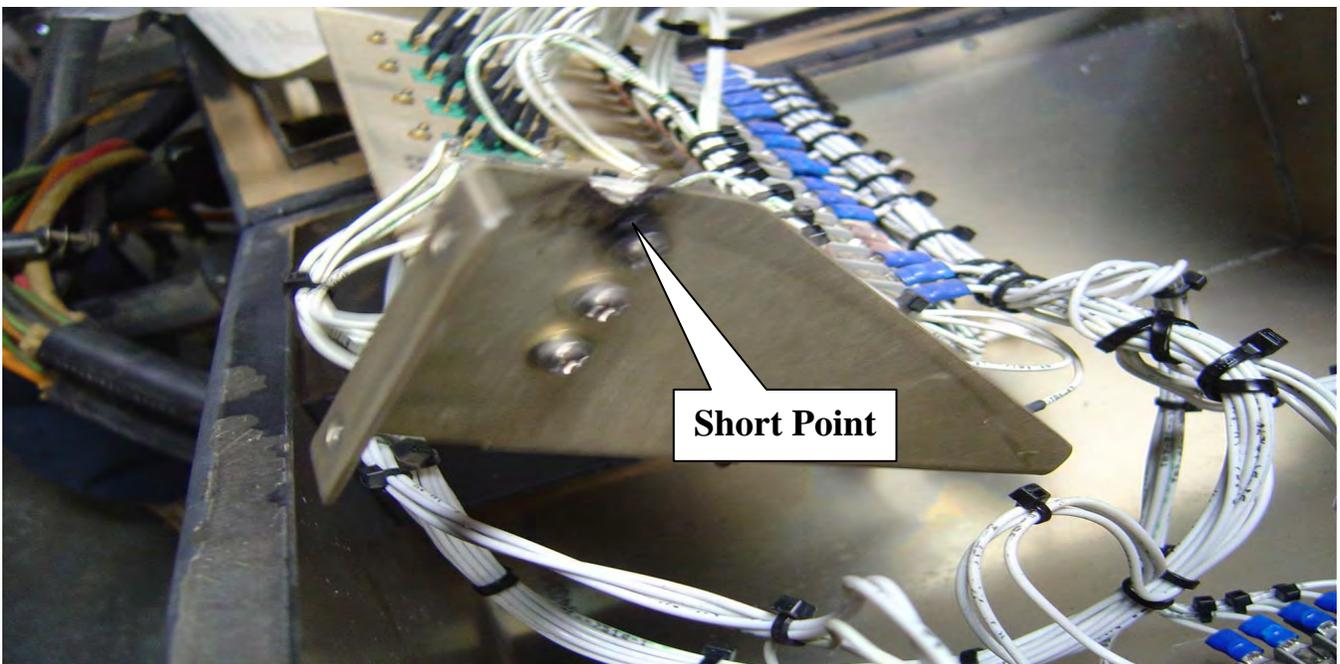

Fig 2
4. Place muffler (**Fig 2, Item 1**) in suitable clamp or vise
5. Using a band saw, or equivalent, remove 2%of flex pipe from the exhaust flange end of the muffler flex pipe. (**Fig 2, Note 1**) Discard removed flex pipe.
6. Place adapter pipe in suitable clamp or vise. (**Fig 2, Item 2**)
7. Cut relief slots in adapter pipe (4 places) as shown. (**Fig 2, View A, Note 3.**)
8. Using accepted welding practices, weld muffler pipe extension to end of muffler flex pipe. (**Fig 2, Note 2**)